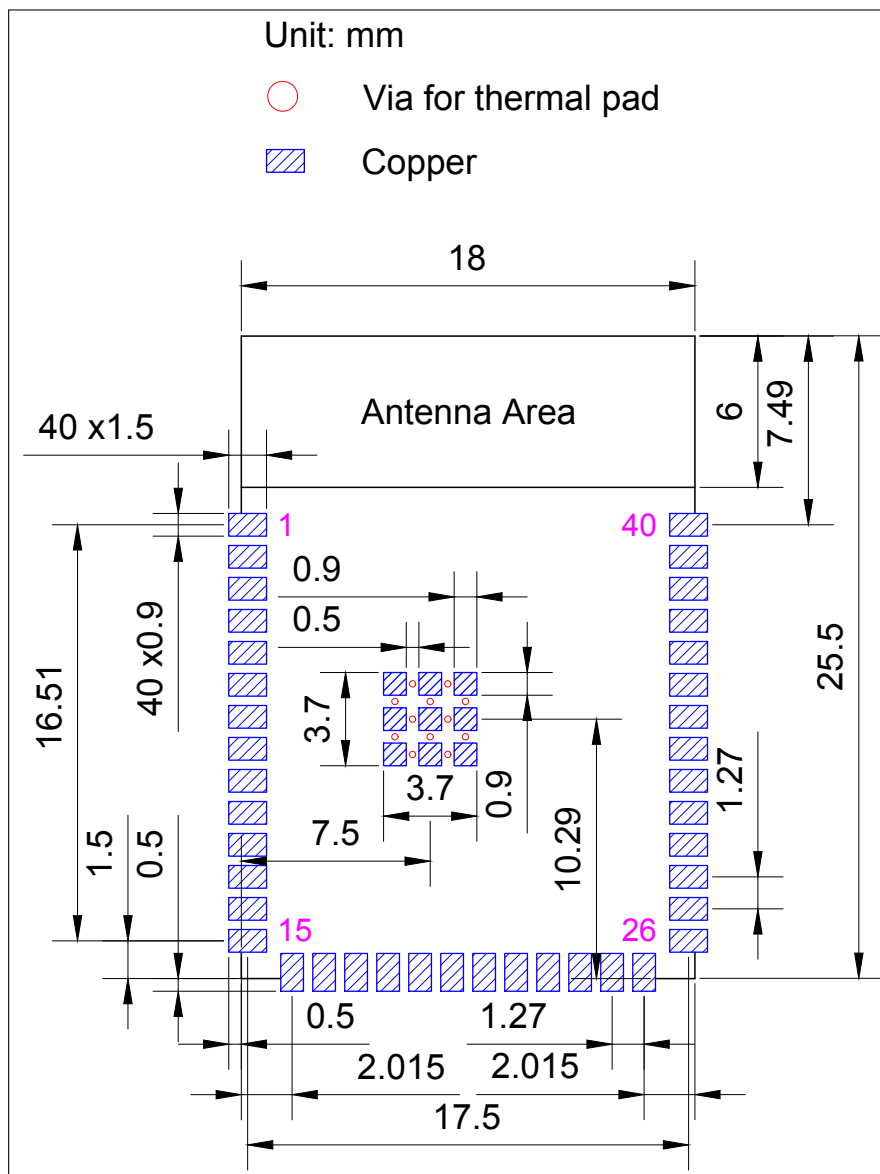
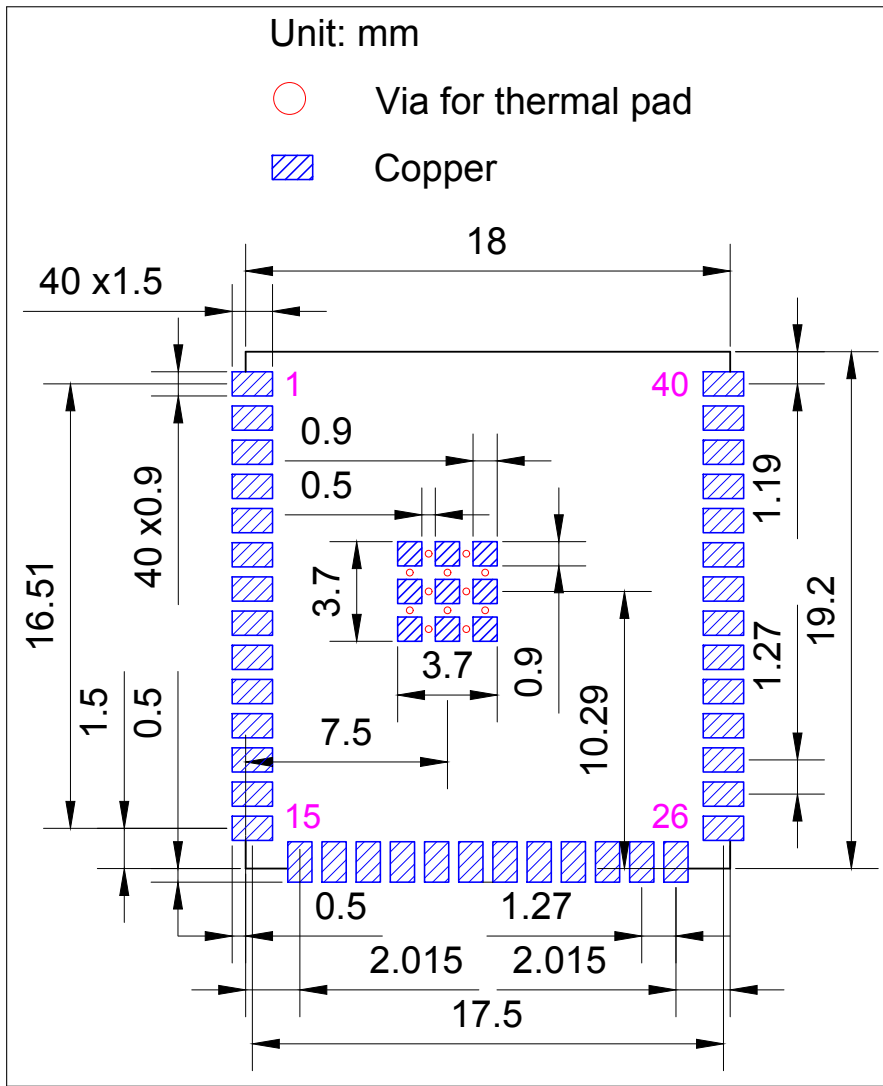

Figure 10: ESP32-S2-SOLO Recommended PCB Land Pattern
Figure 11: ESP32-S2-SOLO-U Recommended PCB Land Pattern
- Figures for recommended PCB land patterns with all the dimensions needed for PCB design. See Figure 10 *ESP32-S2-SOLO Recommended PCB Land Pattern* and Figure 11 *ESP32-S2-SOLO-U Recommended PCB Land Pattern*.
- Source files of recommended PCB land patterns to measure dimensions not covered in Figure 10. You can view the source files for ESP32-S2-SOLO and ESP32-S2-SOLO-U with Autodesk Viewer.
| 2021-06-21 | v1.3 | <ul style="list-style-type: none"> • Added module variants embedded with the ESP32-S2R2 chip • Added module description to the title page • Updated Chapter 1 Module Overview • Updated Pin Layout (Top View), in which IO3, IO46 and IO45 are newly added • Updated Figure 10 ESP32-S2-SOLO Recommended PCB Land Pattern • Added description in Section 7.3 Dimensions of External Antenna Connector • Replaced "chip family" with "chip series" following Espressif's taxonomy |